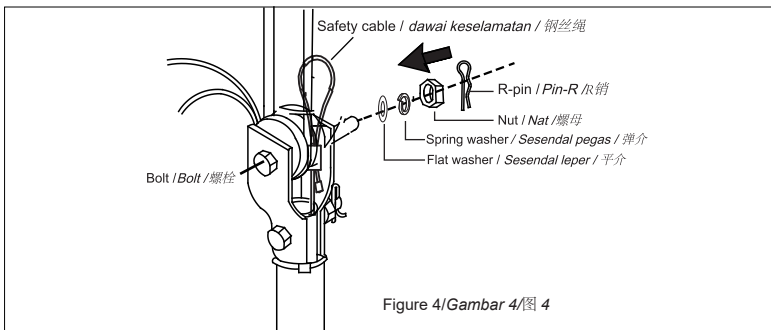

Figure 4/Gambar 4/图4
2. Hang the rubber wheel on the U-Hook. (Figure 4)
步骤 3 (参见图4)